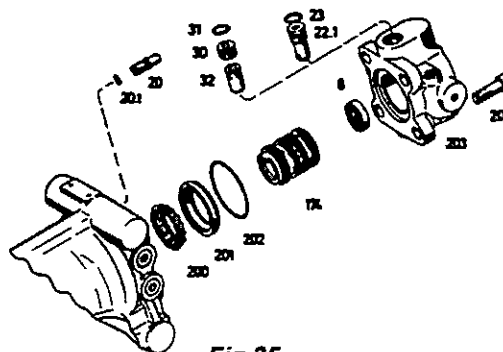

Fig.35
Screw in valve insert (22.1) - pressure limiting valve - with O-ring (23) (*Fig.35*)